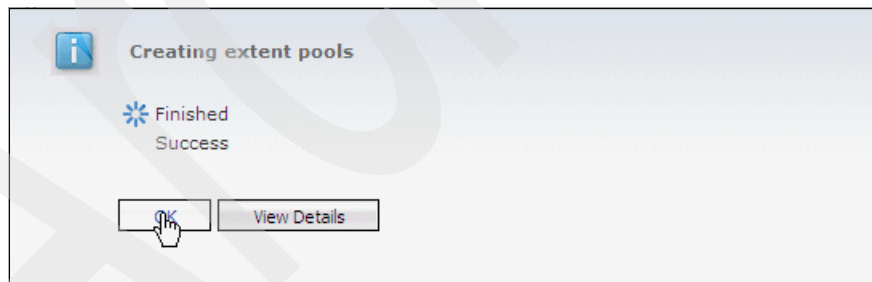

Figure 10-8 Creating extent pools task message panel
7. Depending on the size of the extent pool that you create, you might see a panel that shows a creating extent pools task for some time (shown in Figure 10-8).